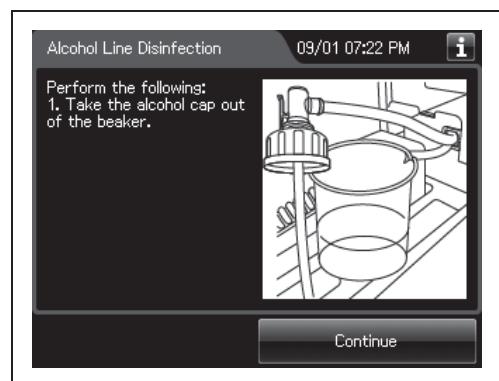

Figure 7.118
- 29** When the touch screen display changes as shown Figure 7.118, take the nozzle of alcohol cap out of the beaker.